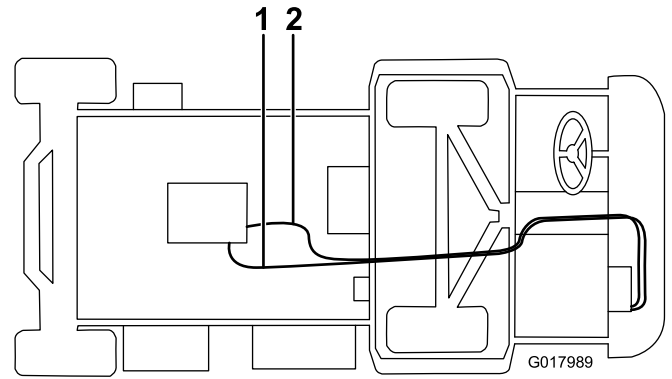

Figure 12
- Connect the long hose to the heater valve with a hose clamp, and route it under the unit, over the axel, and to the straight fitting (Figure 12). Cut excess hose to fit.
- Connect the shorter hose to the white fill tee with a hose clamp, route it through the r-clamp on the heater bracket, and connect it to the tee fitting in the lower radiator hose with a hose clamp (Figure 12). Cut excess hose to fit.